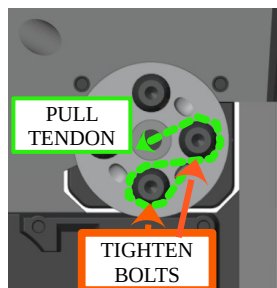
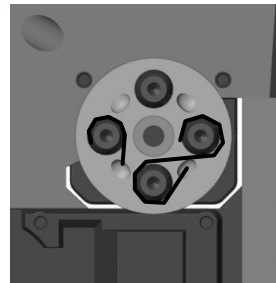

Figure 5.69: Rotation around the bolt
Figure 5.68: Tendon secured under the bolt
7. Pull the flexion end of the flexion tendon without shifting the finger's position and secure it to the bolt at the top with a clockwise rotation around it (figure 5.68). While holding the tendon taut with the assembly pliers, firmly tighten the bolt to lock the tendon (figure 5.68). Figure 5.69 shows the completed operation.